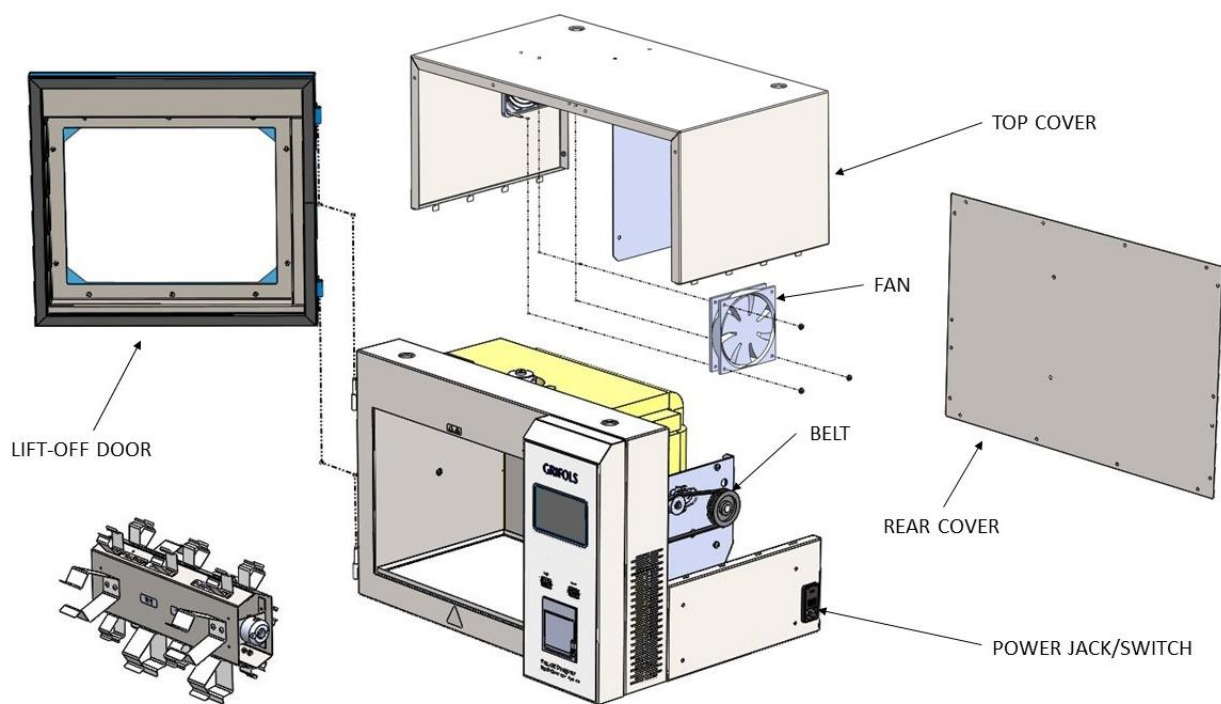

Figure 1.1. Major Features
Most service operations require removal of the Rear Cover (Figure 1.1).
Some service operations require removal of the Top Cover (Figure 1.1). Additionally, some procedures which do not absolutely require it become easier with removal of this cover.
- Whenever the unit is powered, the enclosure fan runs, quietly and almost imperceptibly. This fan has no guard on the inside. (Figure 1.1). Thus, the cooling fan could cause injury when the rear cover is not present.
- The belt drive is unguarded (Figure 1.1) and could cause injury when cover/s are removed.
When moving the unit, be mindful that the door is mounted on lift-off hinges. (Figure 1.1)